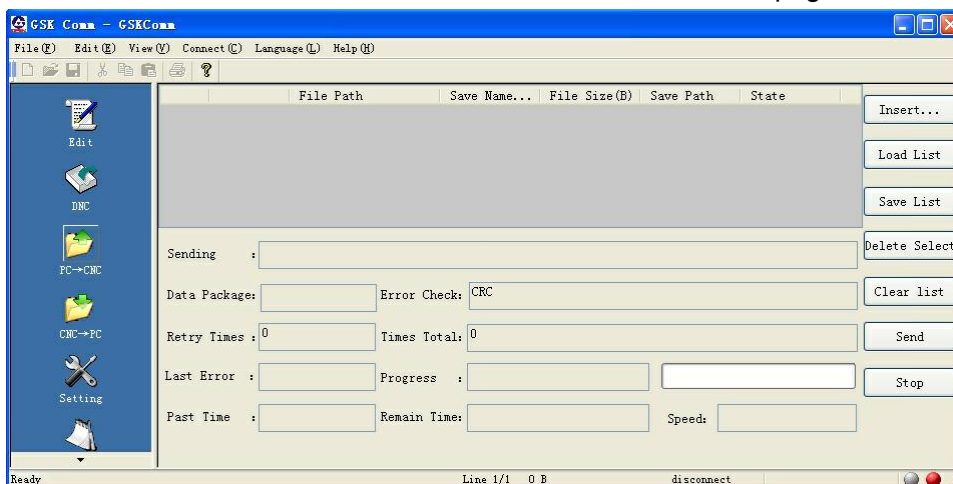

Fig.11-2-2-5
3. Click **Add File** to add the files to be sent to CNC, as shown in Fig.11-2-2-6.